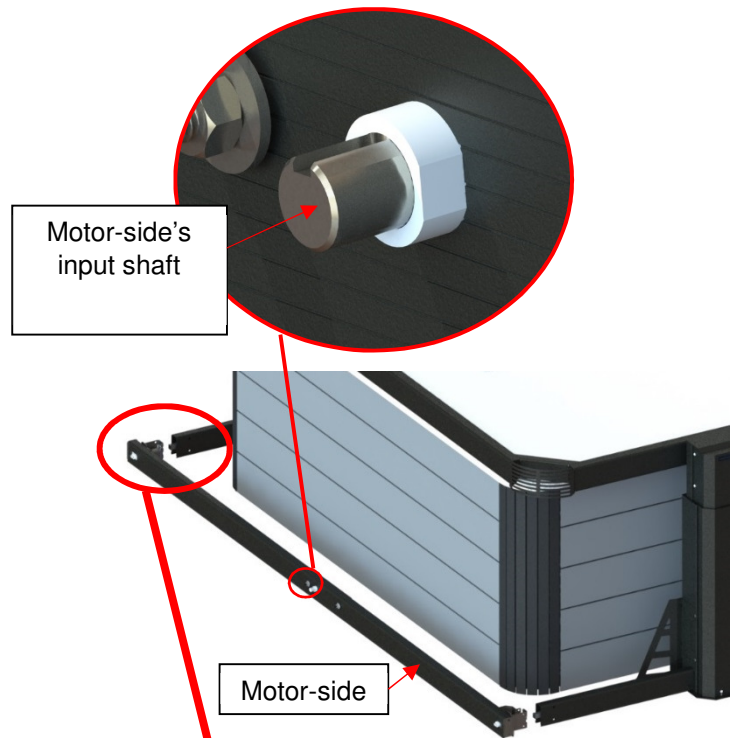

Figure 79
7) Slide the other end of the left square drive-shaft over the square shaft located at the end of the motor-side. (Figure 79)
Note: You might need to rotate the output shaft of the motor-side assembly so both output shaft and drive shaft align well. If so, proceed as shown in Figure 79 using an adjustable wrench to rotate the output shaft.